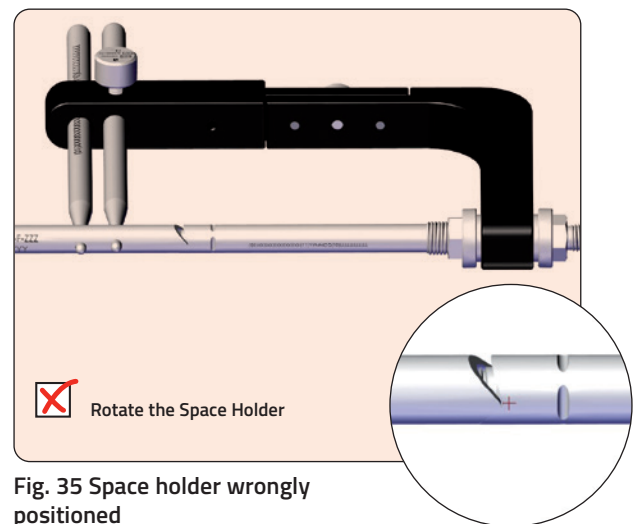

Fig. 35 Space holder wrongly positioned
1. The marking "THIS SIDE UP" on the Space Holder is not facing upwards and the connection between drill guide assembly and nail is loose. (Fig. 35)